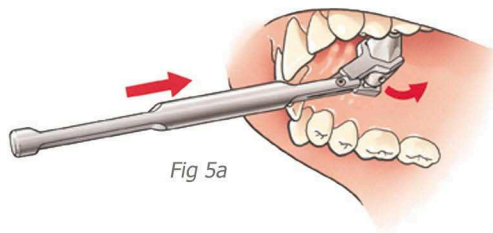

Fig 5a
- 5 Place the hinge key (Ref 03-951A) horizontally into the mouth of the patient and bring the head of the hinge key over the distraction module of the TPD All-in-One device (Fig 5a).
In difficult cases (restricted mouth opening) the hinge key (ref. 03-951A) can be useful (Fig 5a).